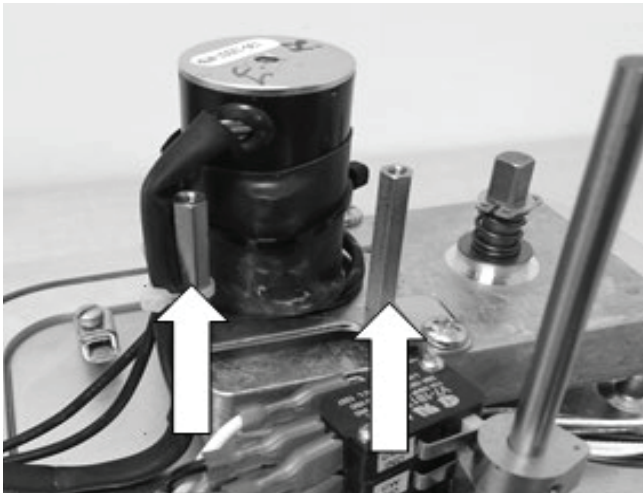

Figure 25.
- 4.27 Re-install the standoffs for the potentiometer bracket to the motor/gearbox, see Figure 25.